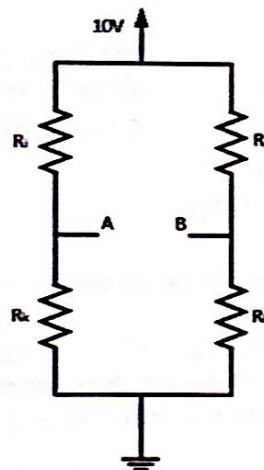

Figure 2: Signal conditioning of a Wheatstone bridge
- If the balloon is released at time zero, and thereafter rises upwards at a velocity of 5 metres/second draw a table showing the temperature and altitude measurements reported at intervals of 10 seconds over the first 50 seconds of travel. Show also in the table the error in each temperature reading. (12)
- What temperature does the balloon report at an altitude of 5000 metres? Please comment on the error progression as the altitude increases. (2)
3.2 Figure 2 shows a configuration of a differential amplifier. Two amplifiers are available one with $A_d = 200$ and $\text{CMRR} = 80\text{dB}$ and the other with $A_d = 200$ but with a CMRR of 60dB . If the differential input to the amplifier is 5 mV (i.e. $V_{AB} = V_d = 5\text{ mV}$)
- Which amplifier should the designer use? Please provide a reason by means of analysis of both the circuits. (8)
- What could be done to reduce the effects of CMRR, list at least two possible ways and state their challenges if any? (3)